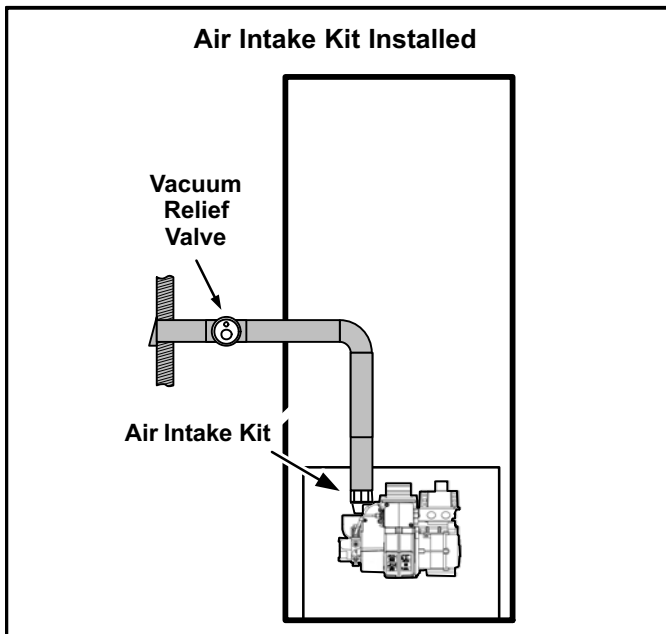

Figure 9
**NOTE - DO NOT install the barometric draft control if the furnace is equipped with an air intake kit. See figure 9.**